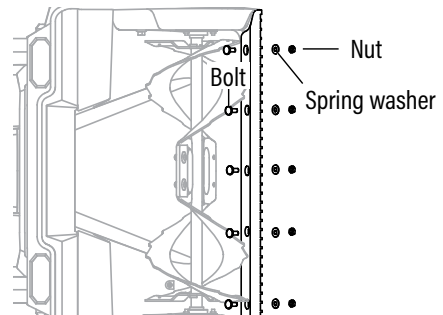

Fig. 13B
2. Use a Hex wrench to remove the 5 nuts and washers under the bottom of the housing. Remove the worn scraper bar from the snow blower. (Fig. 13B)